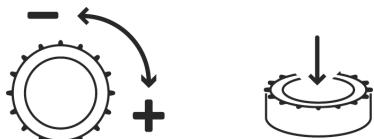

Fig. 5: Rotary knob
- The LC-display shows the status of the pump, the valves and the controller. Using the rotary knob one can select menus and enter parameters. To change values and to scroll through menus the rotary knob (Fig. 5) has to be turned and it has to be pressed in order to select and to acknowledge.